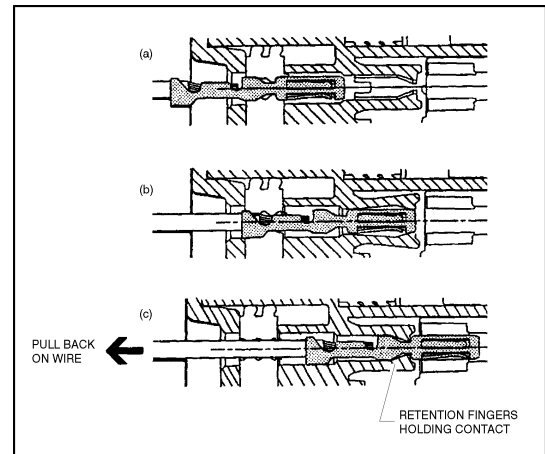

Figure 8-7. Connector Assembly (2 of 4)
1. To insert a contact, push it straight into the appropriate circuit cavity as far as it will go (See Figure8-7. Connector Assembly (2 of 4)).
2. Pull back on the contact wire with a force of 1 or 2 lb. to be sure the retention fingers are holding the contact (See Figure8-7. Connector Assembly (2 of 4)).